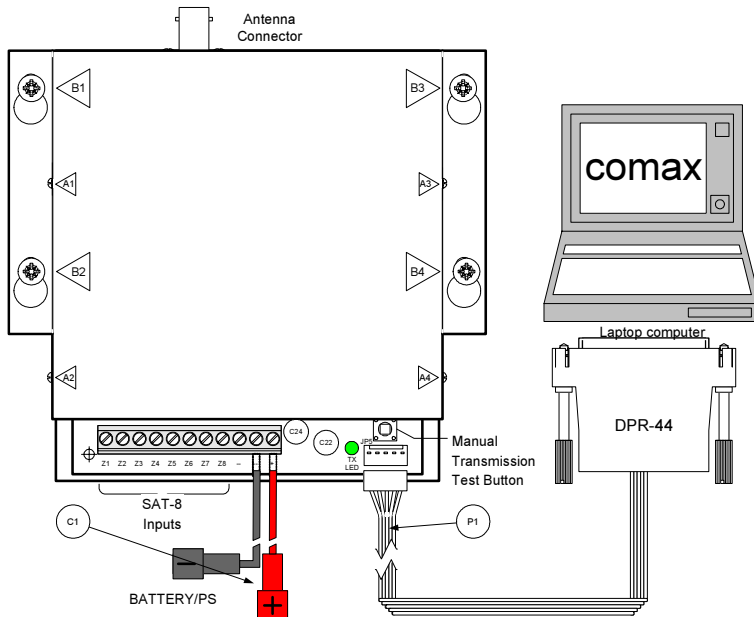

Figure 3 - SAT-8 Programming
- 1 If not done so, disconnect the power cords from the SAT-8 (see item C1 in Figure 3)
- 2 Connect the DPR-44 to JP5 on SAT-8 panel (as seen in Figure 3). One end of cable P1 (Molex) to JP5 and the RJ11 end to the DPR-44.
- 11 Perform a Manual Transmission Test by pressing the test button (see Figure 3)